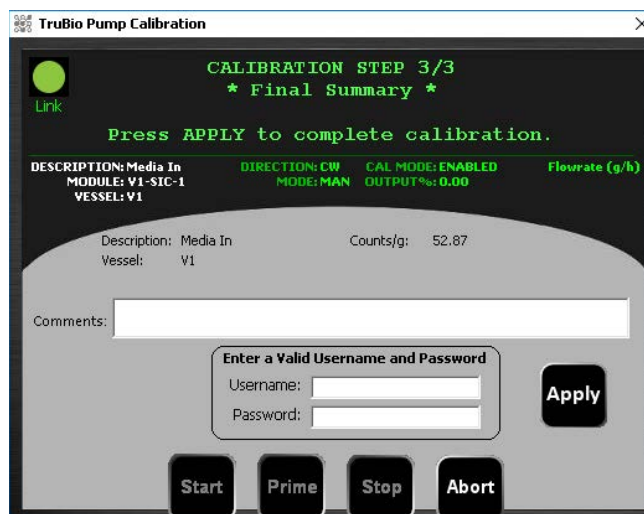

Figure 2.39. Prompt for username and password.
- At the end of the three runs, a prompt appears for a username and password (Figure 2.39). You can also add comments. To write the calibration to the record, click **Apply**.